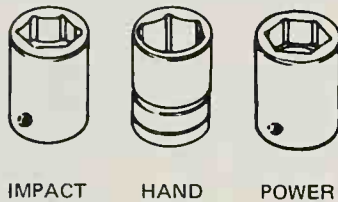

Figure 2-17. Socket wrenches: left, impact; center, hand; right, power. (Snap-On Tools Corp.)
16. When you use socket wrenches, never use hand sockets on power or impact wrenches. Figure 2-17 shows the difference between hand sockets and power and impact sockets. Hand sockets are nickel plated; power and impact sockets are made of black metal. Select the right-size socket for the job, and select only heavy-duty impact sockets for use with air or electric impact wrenches.